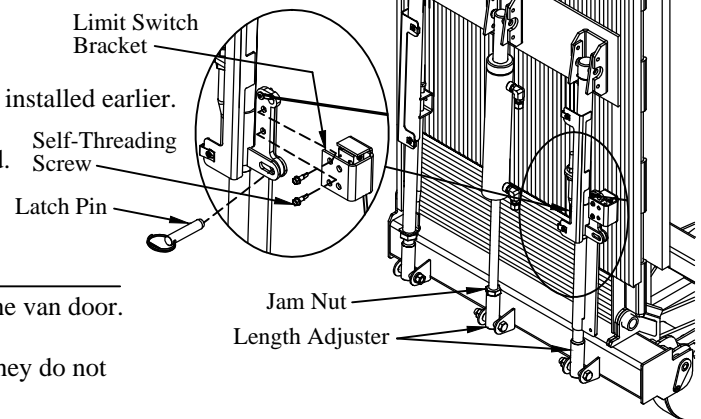

Figure 14: Platform latch and adjustment.
Make sure that the limit switch is not in the pushed position (Figure 14).
3. **Support** the platform to keep it from falling or hitting the van in the next step (Figure 14).